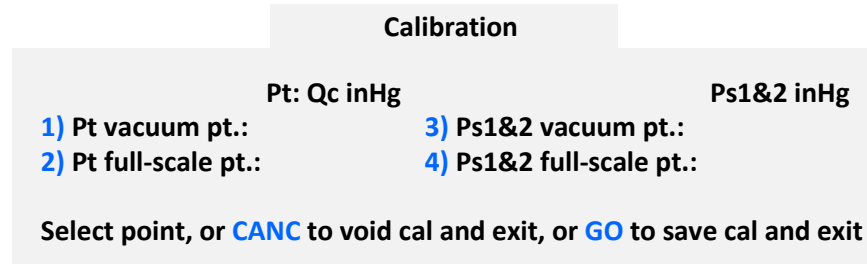

Figure 6.3 : Calibration (Main)
- Enter '1.6000' followed by **ENTER** on the keypad. The highlighted field will be replaced by '1.6000'. Press **CLR** to return to the point-selection screen (Figure 6.3). You should see '1.6000' on this screen, as the Ps1&2 vacuum point. This indicates to the 6600-NG that the absolute pressure on the Ps1 and Ps2 outputs is currently exactly 1.6000 inHg.
- Enter '0.0000' (or simply 0) followed by **ENTER** on the keypad. The highlighted field will be replaced by '0.0000'. Press **CLR** to return to the point-selection screen (Figure 6.3). You should see '0.0000' on this screen, as the Pt vacuum point. This indicates to the 6600-NG that the differential pressure on the Pt output is currently exactly 0.0000 inHg.
14. Enter '30.0000' (or simply 30) followed by **ENTER** on the keypad. The highlighted field will be replaced by '30.0000'. Press **CLR** to return to the point-selection screen (Figure 6.3). You should see '30.0000' on this screen, as the Pt full-scale point. This indicates to the 6600-NG that the differential pressure on the Pt output is currently exactly 30.0000 inHg.
18. Enter '38.0000' (or simply 38) followed by **ENTER** on the keypad. The highlighted field will be replaced by '38.0000'. Press **CLR** to return to the point-selection screen (Figure 6.3). You should see '38.0000' on this screen, as the Ps1&2 full-scale point. This indicates to the 6600-NG that the absolute pressure on the Ps1 and Ps2 outputs is currently exactly 38.0000 inHg.
19. The calibration points have now been entered. You should be in the screen shown in Figure 6.3. Press **GO** to save the points and exit this screen. If you press **CANC**, the calibration will be void. When GO is pressed, the screen will appear similar to the one shown below.